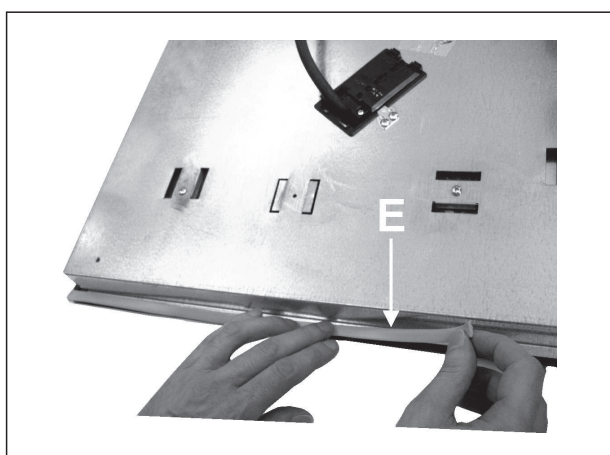

FIG. 6
- overturn the hob, correctly place the putty "E" (fig. 6) under the hob edge, so that the external side fits together with the external perimetric edge of the hob. The ends of the strip must fit together without overlapping.